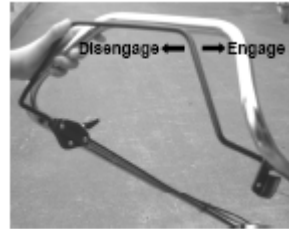

Figure 14. Clutch engagement lever
- Push slowly on the clutch engagement lever to engage the self-propelled drive to the rear wheels. Refer to figure 14.